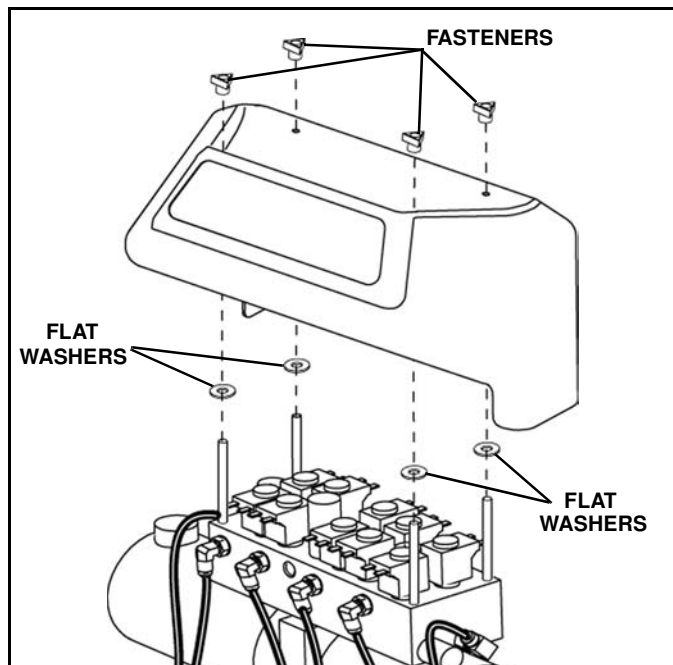

Figure 1-46
19. Ensure that a flat washer is on top of each of the power unit cover studs and install the cover. Secure with plastic fasteners. (See Figure 1-46).